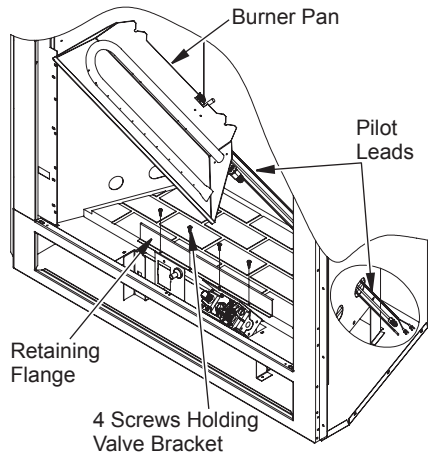

Figure 5 - Removing Burner Pan
6. Remove 4 Phillips head screws located on valve bracket and lift retaining flange off burner pan (see Figure 5).
7. Lift burner pan and draw pilot leads out through knockout pass on firebox (see Figure 5).
3. Place retaining flange on valve bracket back over leading edge of burner pan (see Figure 5, page 2).
4. Center pan to valve bracket and replace 4 pan head screws into valve bracket mounting locations (see Figure 5, page 2).